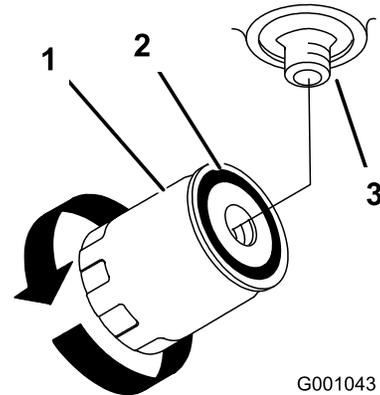

Figure 75
- Apply a thin coat to the rubber gasket on the replacement filter (Figure 75).
- Fill the hydraulic tank with hydraulic fluid until the fluid overflows the filter and then turn the oil filter clockwise until the rubber gasket contacts the filter adapter, then tighten the filter an additional 1/2 turn (Figure 75).